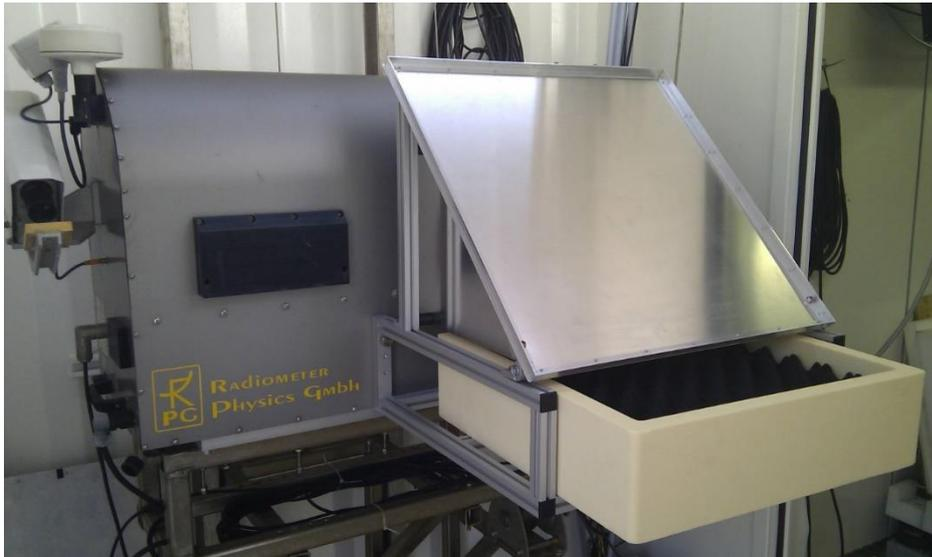

Figure 1: Classic RPG Liquid nitrogen target (produced until 2016)
- **Classic target (90° reflector)**, produced until 2016: This target has an open surface (see Figure 1). It is not recommended to use this target anymore because of several reasons: